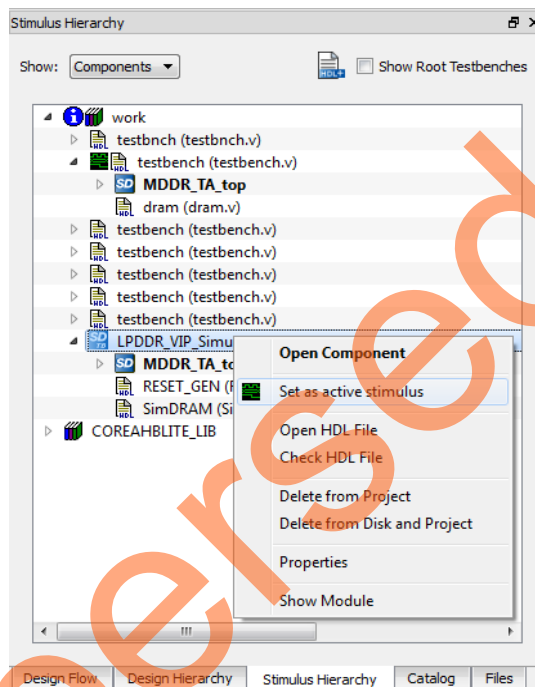

Figure 26 • Stimulus Settings
10. Under the **Stimulus Hierarchy** tab, set the SmartDesign testbench as **Set as active stimulus**. Figure 26 shows the **Stimulus Hierarchy** settings.